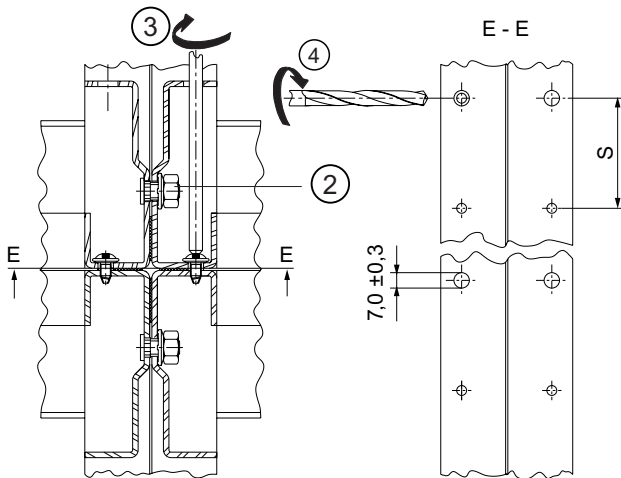

Fig. 8b
- Figure 8b shows the frame connection in a cabinet row. The seal shown is necessary for IP54.
- To join two cabinets of the same height and width back-to-back, enlarge 6 to 10 holes in the back wall of one of the frames from $\varnothing 4.5$ mm to $\varnothing 7.0 \pm 0.3$ (Figure 8b).
- Place the frames back-to-back close to each other and bolt them together with sheet metal screws PM 5x10. See Figure 8b.
- Bolt the cross members together at the top and bottom using the lateral round holes as well as the center hole (from 900 mm cabinet widths) using M 8x15 draw-in bolts, 8 contact washers and M 8 nuts. See Figure 8b.